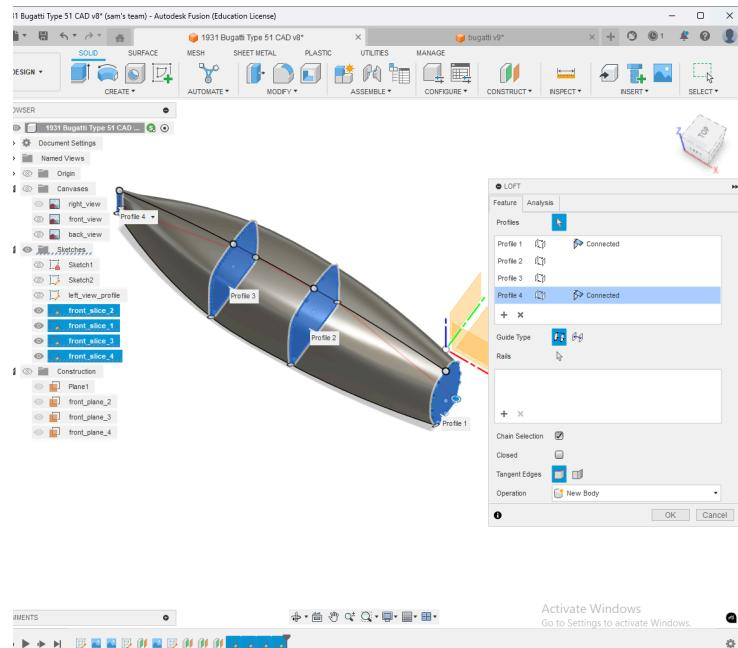

Fig. 12: The loft feature applied on the four cross sections, creating the car body
- The loft feature is then utilized in creating the outline of the car. Connect all of the slices together with the loft feature to form the car body. See **Fig. 12** for a visual of this process.